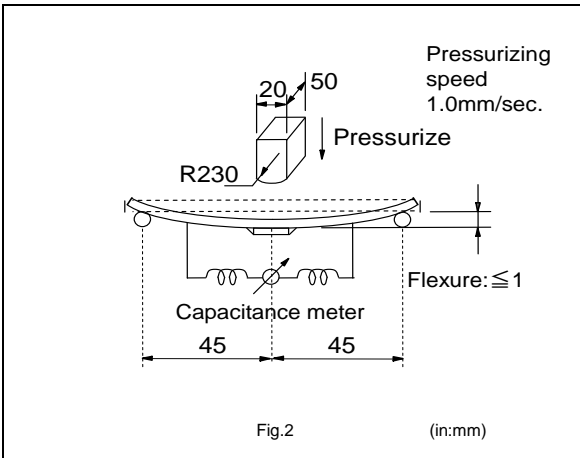

Fig.1 Package Chips
1.6 Chip in the tape is enclosed by top tape and bottom tape as shown in Fig.1.
1.11 Reel is made by resin and appeaser and dimension is shown in Fig 1.